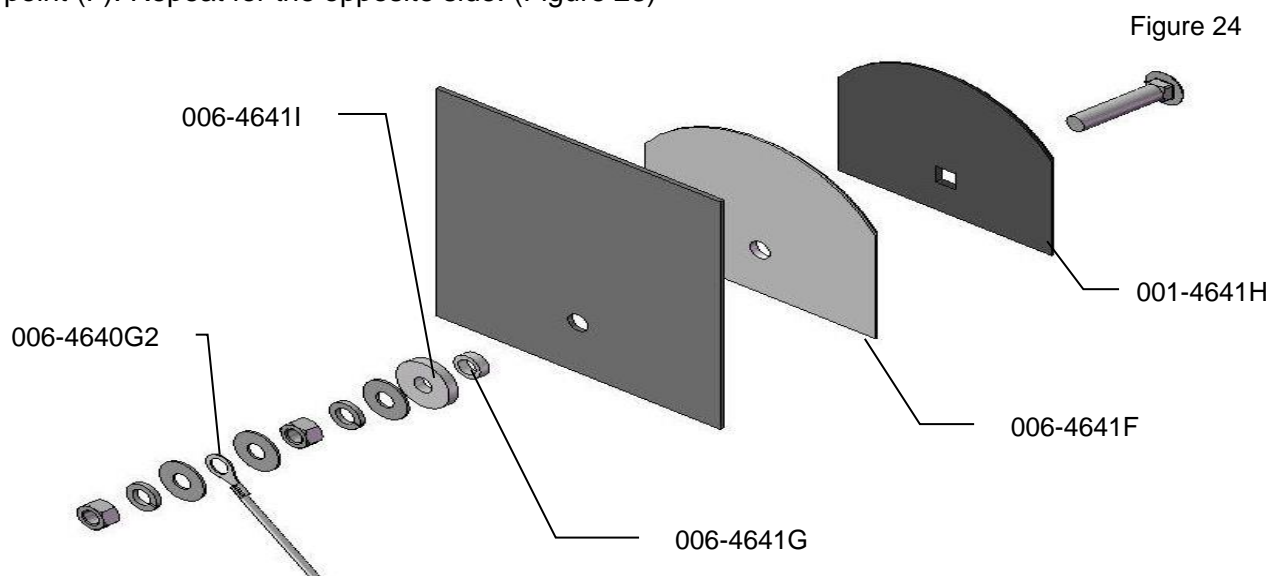

Figure 24
5. Locate the 006-4641G. The piece will need to be cut down to size. Use the already machined line in the bushing to cut off the small piece shown above. (Figure 24)